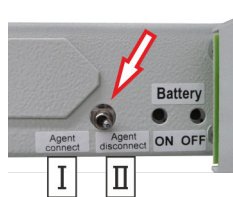

Fig. 32: Blocking switch
1. ➤ To block the system: Switch the blocking switch (Fig. 32/arrow) to "Agent disconnect [blocked]" (Fig. 32/ II).